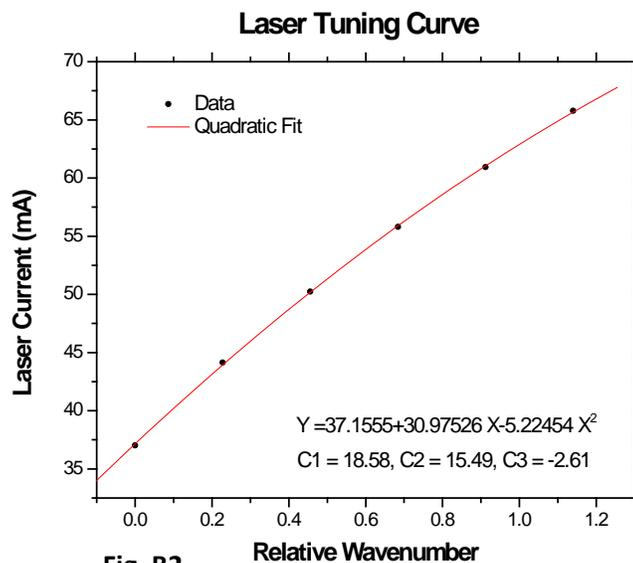

Fig. B2
Note that the original fit (Fig B2) can be extended at either end by adjusting the relative cm^{-1} range and regenerating the fit using the same coefficients (eg. offset to negative values at the low mA end of the scan, then expand the total range (linear term) to extend beyond the last fringe peak at the high mA end of the scan).
peak to the last peak. If this relative cm^{-1} range of 0 - 1.14 cm^{-1} is used to generate the laser scan range in mA using the fit coefficients, the range would be from 37.03 mA (peak #1) to 65.78 mA (peak #5) only. To extend the scan range down to 30 mA and up to 80 mA, for example, the constant term in the original fit (37.1555 in Fig. B2) can be changed to 30.0. Then the linear term is increased from 30.97526 to a larger value to extend the range. This is most easily done using a spreadsheet to change the linear term and observing the value that fit produces for the last point in the scan array (or just solve the quadratic for the needed value). For this example, a change in the linear term from 30.97526 to 55.0, with the constant term changed to 30.0, produces a scan from 30.0 mA to 79.75 mA. To get new values for C1, C2, and C3, repeat the final step above of creating X_{new} over the 0.0 to 1.0 range, fitting this (X) against the new range of mA values (Y) using the original fit coefficients from Fig. B2, then dividing the new fit coefficients by 2 to get final values for C1, C2 and C3 to enter into the GUI.